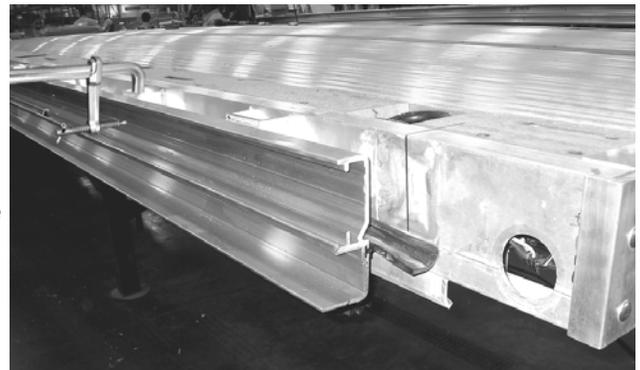

Figure 7
8) See **Figure 7**. Align the aluminum rail (1) with the vertical line made in step 2. Clamp each end of the rail section to the side of the trailer slightly below the deck of the trailer.